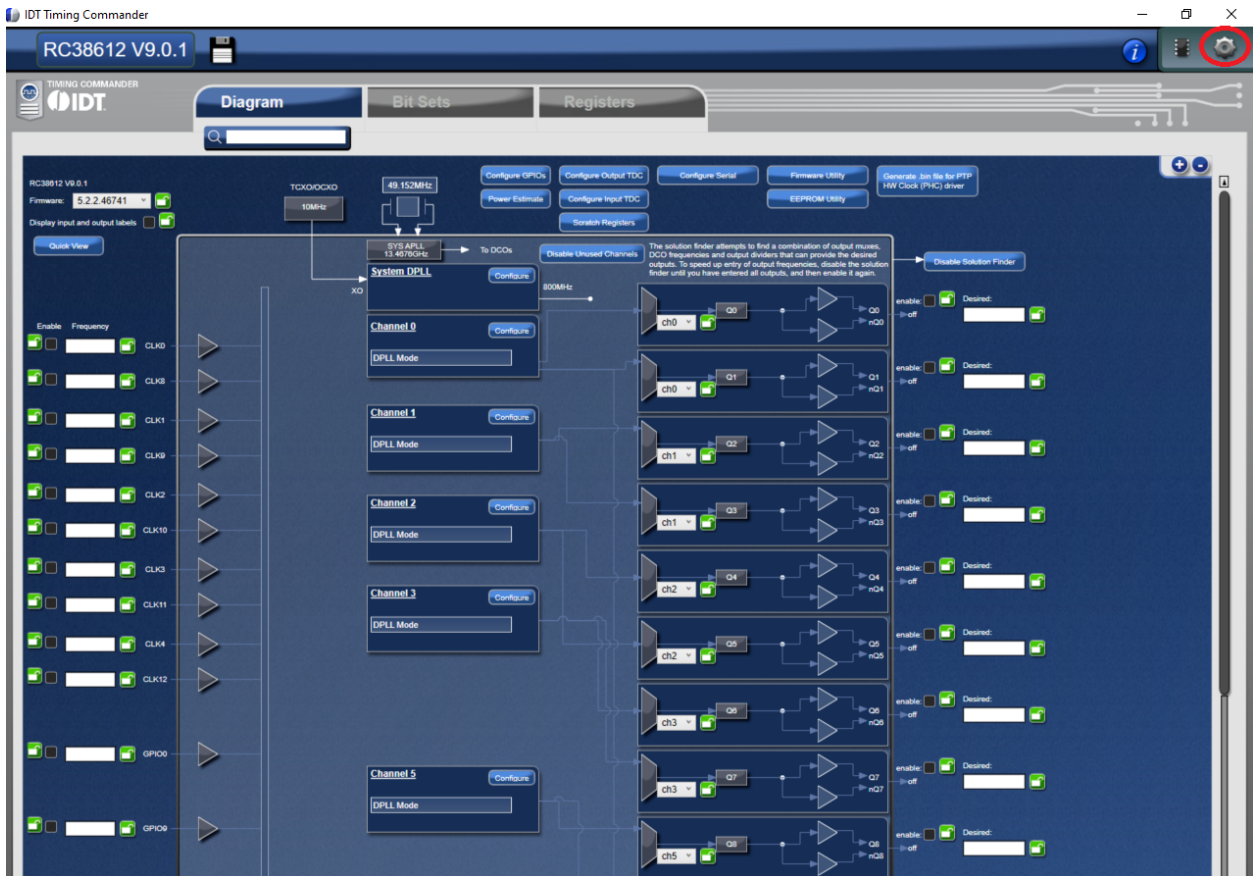
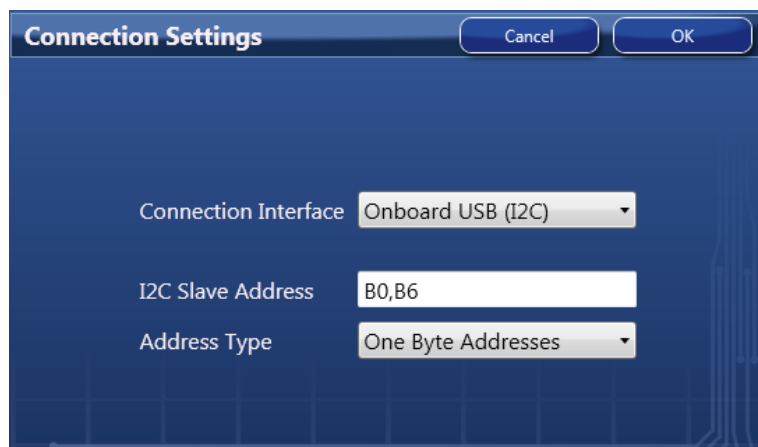

Figure 9. Timing Commander GUI with a Settings File Opened
Figure 10. Setting I2C for Connecting the Board with GUI
By using FTDI dongle, we can connect to a customer board and use the Timing Commander GUI just like working on a ClockMatrix evaluation board. When using the FTDI dongle to connect to a customer board, in Timing Commander “Connection Settings” window, “On-board USB (SPI)” is selected in Connection Interface box (see Figure 10), same as connecting to a Renesas evaluation board.
- The GUI window with the RC38612 block diagram will open for configurations; or if “Open Settings File” is selected in Step 5 above, you will be prompted to browse and select an existing .tcs file and the personality file. When the configuration file is open, all configured values will be displayed as in Figure 9.
- In order to connect the board with Timing Commander (PC), click the button (red circle) at the up-right corner of the GUI to set up the communication protocols (see Figure 9). After I2C and one-byte addressing are selected, click OK to close the window (see Figure 10).